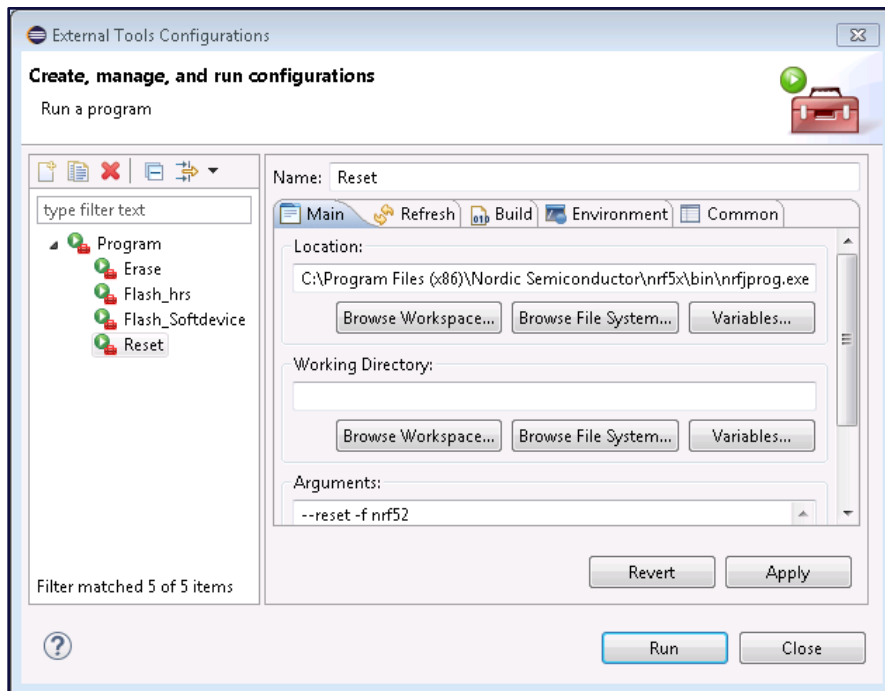

Figure 24: Adding Reset to External Tools Configurations
6. Click **Apply** and then click **Run** (Figure 24).